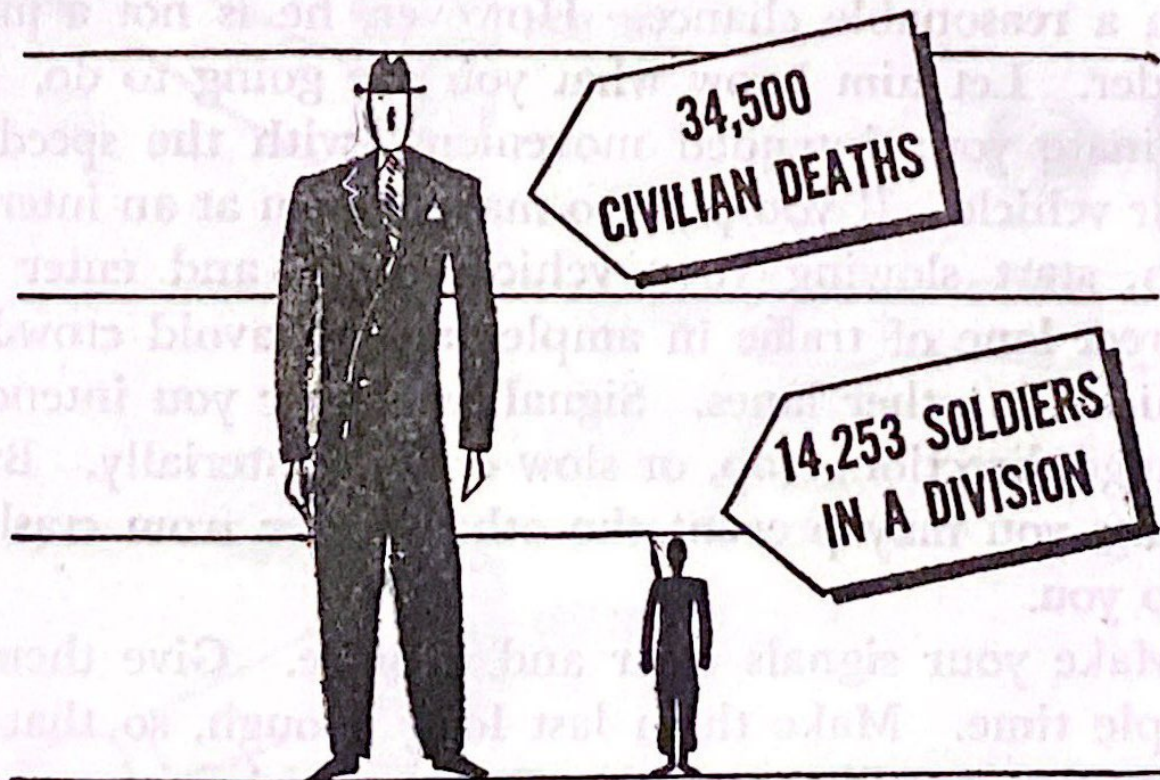

Figure 5. Accident casualties.
17. MOTOR VEHICLE ACCIDENTS WEAKEN OUR WAR EFFORT. Thirty-four thousand five hundred people were killed in motor vehicle accidents in the United States in 1940. That is more than the number killed by air raids on England in the whole first year of the second World War, and is equal to more than two whole divisions of troops. (See fig. 5.)